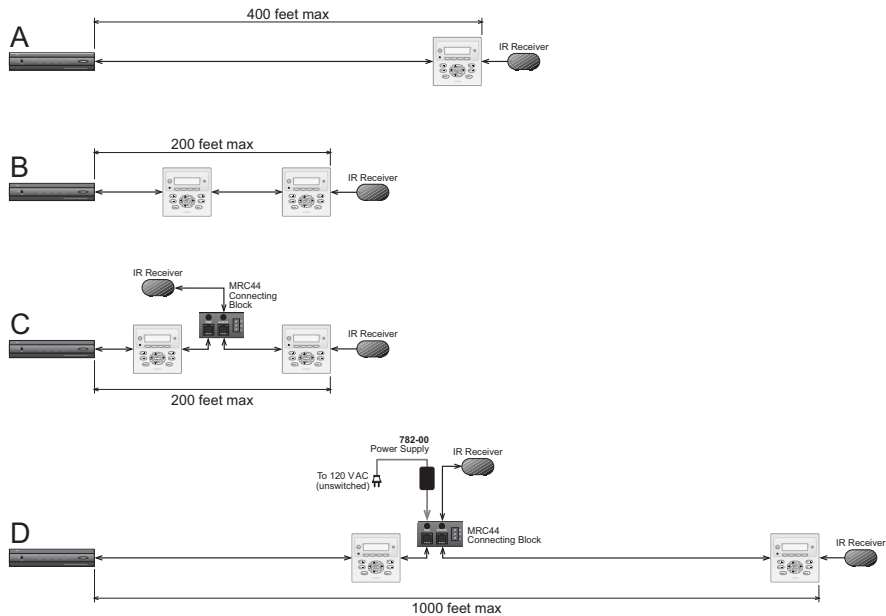

Figure 8 – MRC44 Keypad CAT5 Cable Lengths
3. When adding an IR receiver in the zone, set the jumpers according to the above table and connect the cables as shown in **Figure 8**.